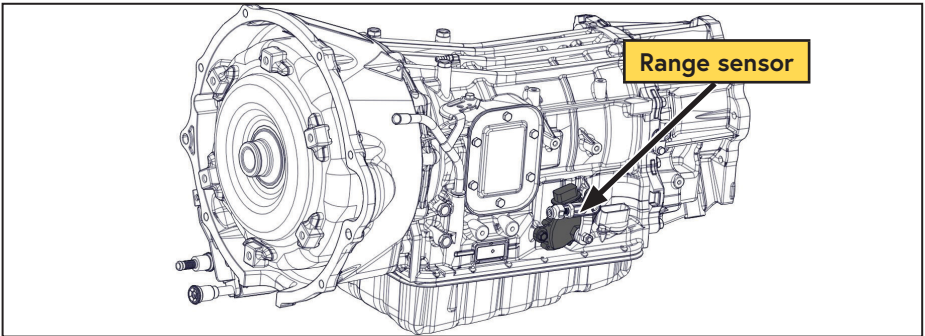

Figure 4 — Locate range sensor
- Locate the 10 pin connector plugged into the transmission range sensor on the driver side of the transmission (Figure 4).